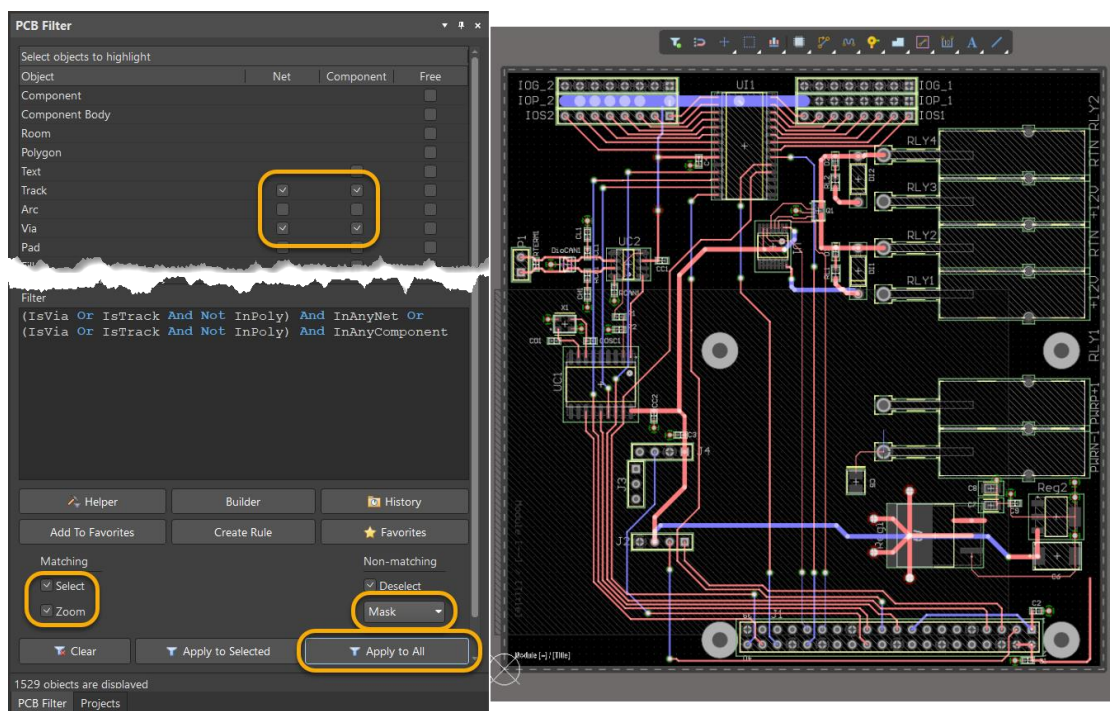

Figure 6. PCB Filter panel selections reflected in the PCB
17. From the topmost pane, enable the **Track** checkboxes associated with **Net** and **Component** as shown in Figure 6.
20. From the *PCB filter* panel, click the **Apply to All** button in the bottom right corner of the panel to see the effect of the query to the design. You should have tracks highlighted as shown in Figure 6.